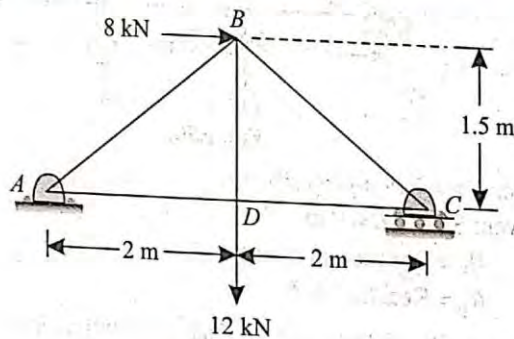

Fig. 9.27.
**Example 9.12.** Fig. 9.27 shows a framed structure of 4 m span and 1.5 m height subjected to two point loads at B and D.